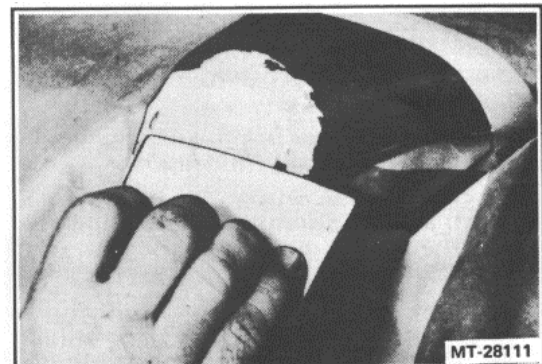

Figure 12. - Applying Body Filler
5. Apply and spread filler with a plastic squeegee making sure to remove large air bubbles (Figure 12).